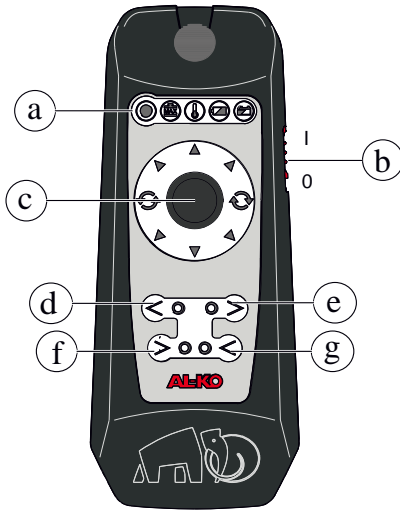

Fig. 2: Radio remote control
The numbers in brackets in this section refer to figure 2.
4. Press and hold the keys until the LEDs on the contact keys flash (fig. 2).
The numbers in brackets refer in this section to Fig. 2.